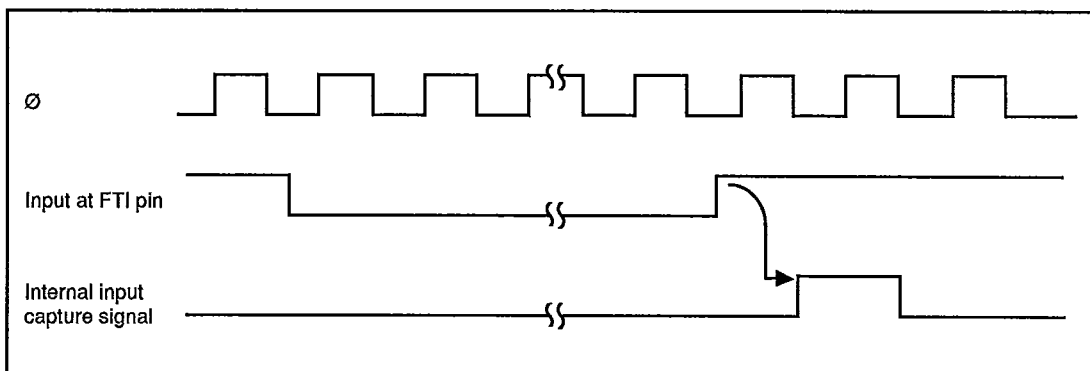

Figure 7-9. Input Capture Timing (Usual Case)
(1) **Input Capture Timing without Noise Canceler:** An internal input capture signal is generated from the rising or falling edge of the FTI input, as selected by the IEDG bit in the TCSR. Figure 7-9 shows the usual input capture timing when the rising edge is selected (IEDG = 1).
(2) Input Capture Timing with Noise Canceler: The noise canceler samples the FTI input, and does generate an internal input capture signal until three to four sampling clock cycles after the rise or fall of FTI. Figure 7-9 shows the timing.